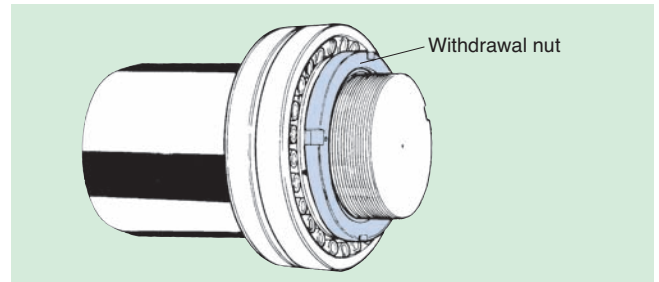

Fig. 18
- (2) Prepare a withdrawal nut that suits the hydraulic withdrawal sleeve, and install it to the thread of the hydraulic withdrawal sleeve (see **Fig. 18**).